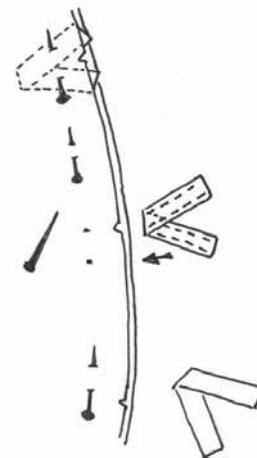

Figure 20
- C. For WB inserts requiring a lace-up system on the middle panel, go back along the pinned edge and insert the loops at the correct locations as shown on **Figure 20**, removing the pins that are in the way as necessary.